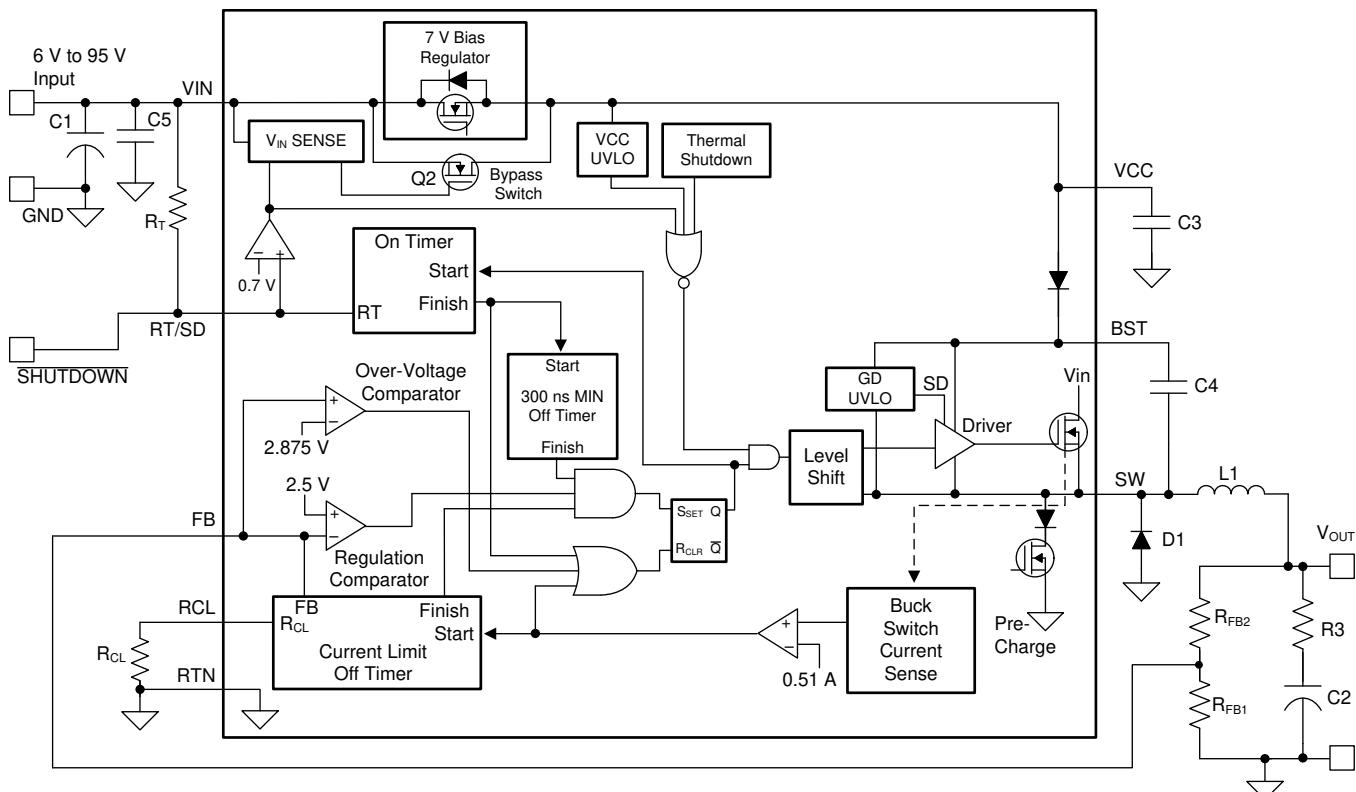

图 50. Functional Block Diagram
The output voltage (V_{OUT}) is programmed by two external resistors as shown in 图 50. The regulation point can be calculated with 公式 7.
The LM5008A regulates the output voltage based on ripple voltage at the feedback input, requiring a minimum amount of ESR for the output capacitor C2. A minimum of 25 mV to 50 mV of ripple voltage at the feedback pin (FB) is required for the LM5008A. In cases where the capacitor ESR is too small, additional series resistance may be required (R3 in the 图 50).
The high voltage bias regulator is integrated within the LM5008A. The input pin (VIN) can be connected directly to line voltages between 6 V and 95 V, with transient capability to 100 V. Referring to the 图 50, when V_{IN} is between 6 V and the bypass threshold (nominally 8.5 V), the bypass switch (Q2) is on, and V_{CC} tracks V_{IN} within 100 mV to 150 mV. The bypass switch on-resistance is approximately $100\ \Omega$, with inherent current limiting at approximately 100 mA. When V_{IN} is above the bypass threshold Q2 is turned off, and V_{CC} is regulated at 7 V. The V_{CC} regulator output current is limited at approximately 9.2 mA. When the LM5008A is shut down using the RT/SD pin, the V_{CC} bypass switch is shut off regardless of the voltage at V_{IN} .